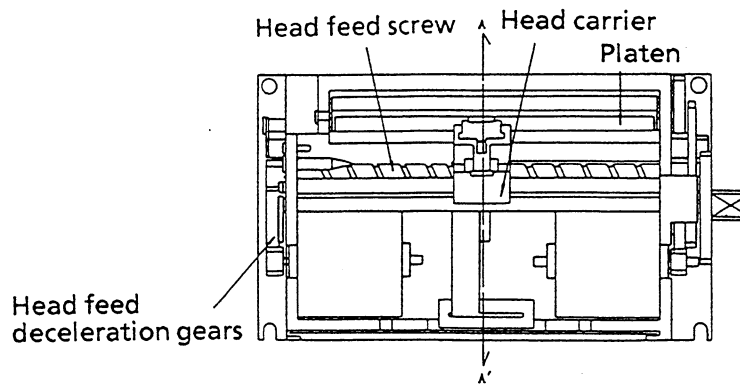

Figure 7-1 Thermal Print Head Unit Replacement Position
- ① Rotate the head feed deceleration gears and move the head carrier to the left side of the printer (refer to Figure 7-1 Thermal Print Head Replacement Position).
- ② With the solder-plated surface of the FPC terminal face-down, pass the FPC under the guide pins from the platen side.
- ④ Rotate the head feed deceleration gears and move the head carrier to the center of the printer (refer to Figure 7-1 Thermal Print Head Unit Replacement Position).
- ⑤ Insert the thermal print head unit along the head holder guides until it clicks into position.